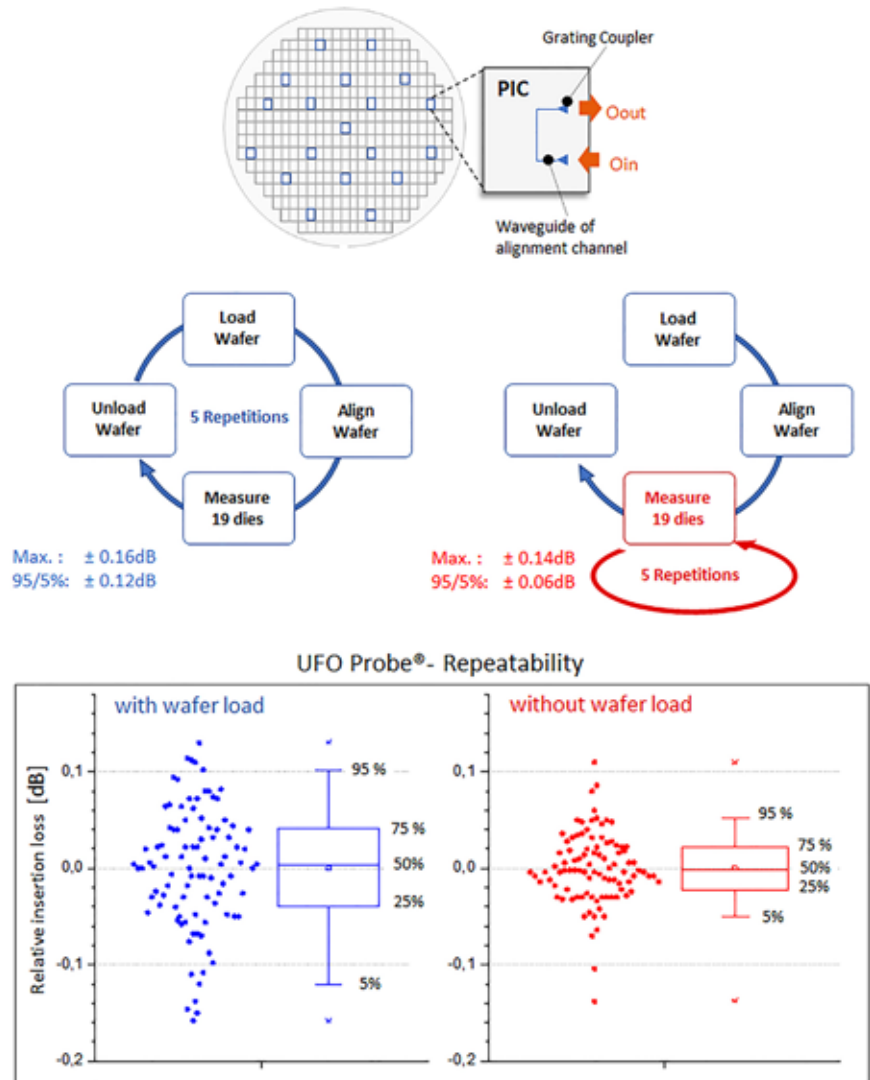

Figure 3. Verification of test capabilities under realistic conditions.
The influence of selected prober functions on the measurement accuracy was also evaluated on a test wafer (Figure 3). For this purpose, 19 defined dies distributed over the entire wafer were measured five times. The PICs were contacted both electrically and optically. For the considerations here, however, only the measurements of the insertion loss at an optical alignment channel were evaluated. In the first test scenario, the wafer was aligned in each run (Figure 3). The change of the recorded insertion loss (IL) was within ± 0.16 dB, while 90 % of the measured values lay within ± 0.12 dB.